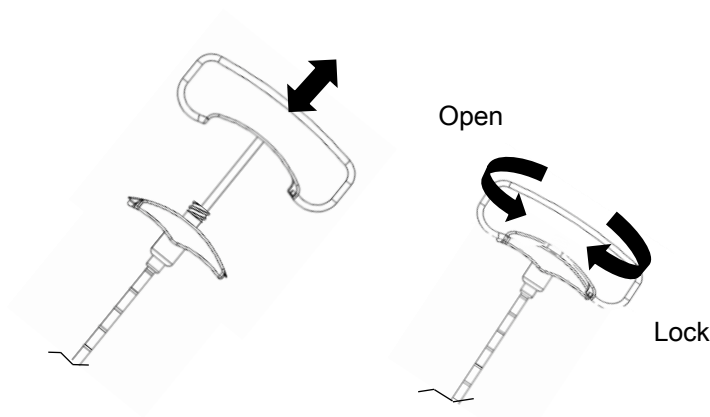

Figure 10 - Trocar insertion and extraction
- 6 Once you have reached the desired position, unlock and remove the Trocar handle from the introducer (Figure 10).